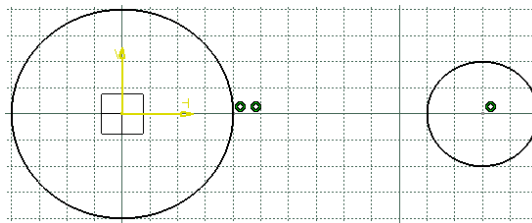

Figure 3-63 The sketch after drawing the second circle
6. Move the cursor toward the right and specify a point on the circle when **20** is displayed as the radius value in the **R** edit box of the **Sketch tools** toolbar. The sketch, after drawing the second circle, is shown in Figure 3-63.